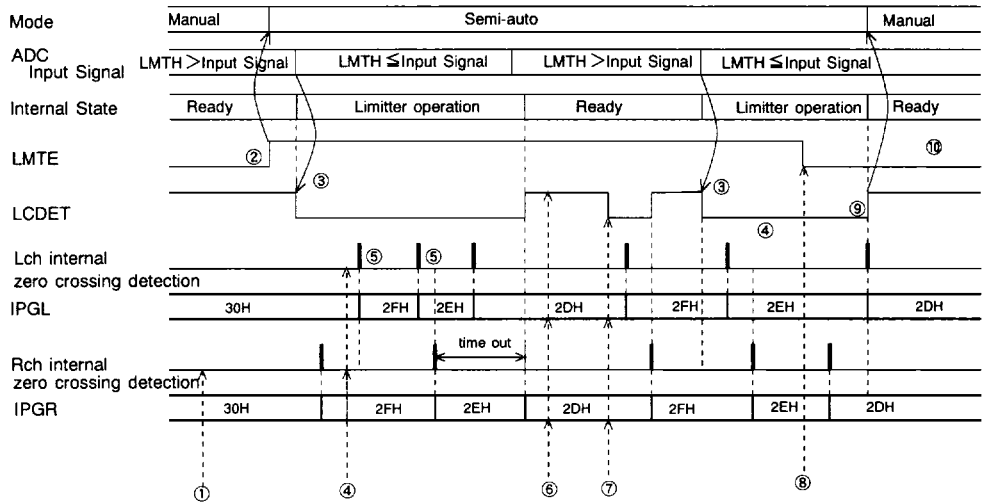

Figure 7. Control example of semi-auto mode operation(LMAT = 1 step, ZENM=ZELM="1")
- ② WR(LMTE="1", RCVE="0") : After the registers concerned in the auto limiter operation is set up and confirming the zero crossing flags(ZFIPL,ZFIPR)="1", LMTE is set "1".
- ③ As the input signal of ADC exceeds LMTH, the auto limiter operation starts.
- ④ WR(IPGA="31H") : As the auto limiter is in operation, writing by uP is ignored.
- ⑤ After the zero crossing operation of both Lch and Rch is completed, the next operation starts.
- ⑥ RD(LCDET&IPGA) : Confirm to complete auto limiter operation and reads the IPGA present value.
- ⑦ WR(IPGA="2FH") : Update IPGA value.
- ⑧ WR(LMTE="0")
- ⑨ In Figure 7, since "0" is written to LMTE during ATT operation, the operation changes to manual mode after completing ATT operation. After confirming LCDET="1", it is possible to change the each register set-up. If LMTE is set "0" during the auto limiter operation or the update of the IPGA value by uP, LCDET becomes "1" after the max "1" ATT/GAIN operation is completed by internal state.
- ⑩ In this case, the input signal of ADC exceeds LMTH, the auto limiter does not operate because of LMTE="0".